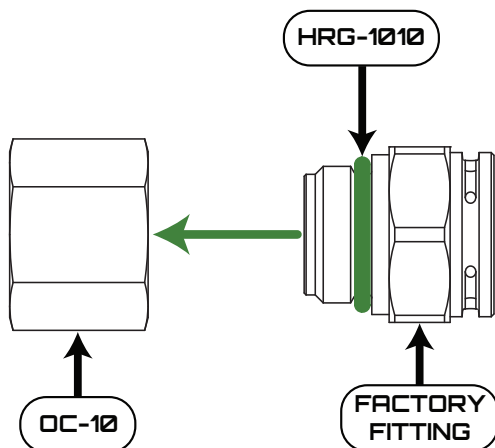

Figure 4 - Installing the Factory Fitting into OC-10
13. Assemble OC-10 and the factory oil cooler fitting as shown in Figure 4. Torque to 20 lb-ft (27 N-m) using a vise and 1-¹/₁₆ inch or 1-¹/₈ inch tool depending on which side is in the vise.